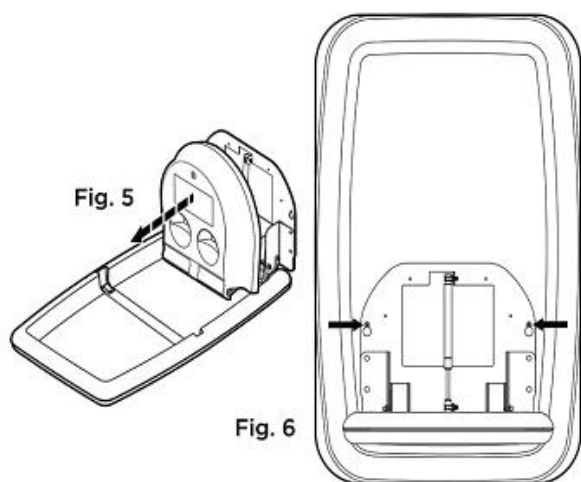

Fig. 6
- Lift the unit into the flange locating the key holed mounting holes over the mounting screws. **Fig. 6** This may be easier with the assistance of a second person.